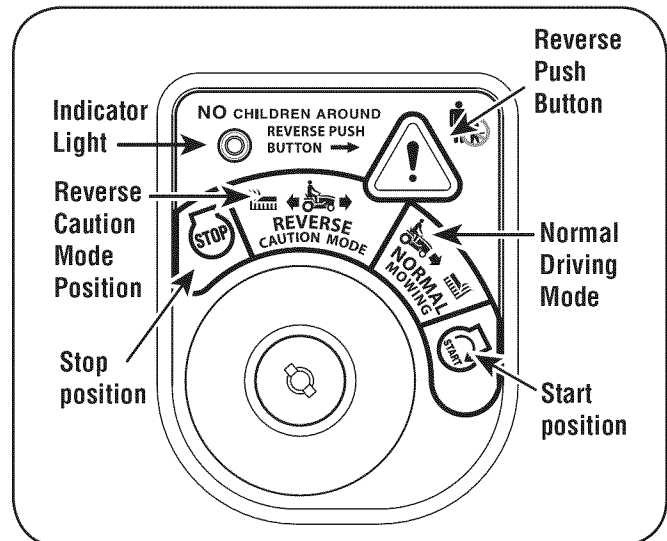

Figure 5-1
2. Turn the key from the NORMAL MOWING (*Green*) position to the REVERSE CAUTION MODE (*Yellow*) position of the key switch module. See Figure 5-1.
3. Depress the REVERSE PUSH BUTTON (*Orange, Triangular Button*) at the top, right corner of the key switch module. The red indicator light at the top, left corner of the key switch module will be ON while activated. See Figure 5-1.